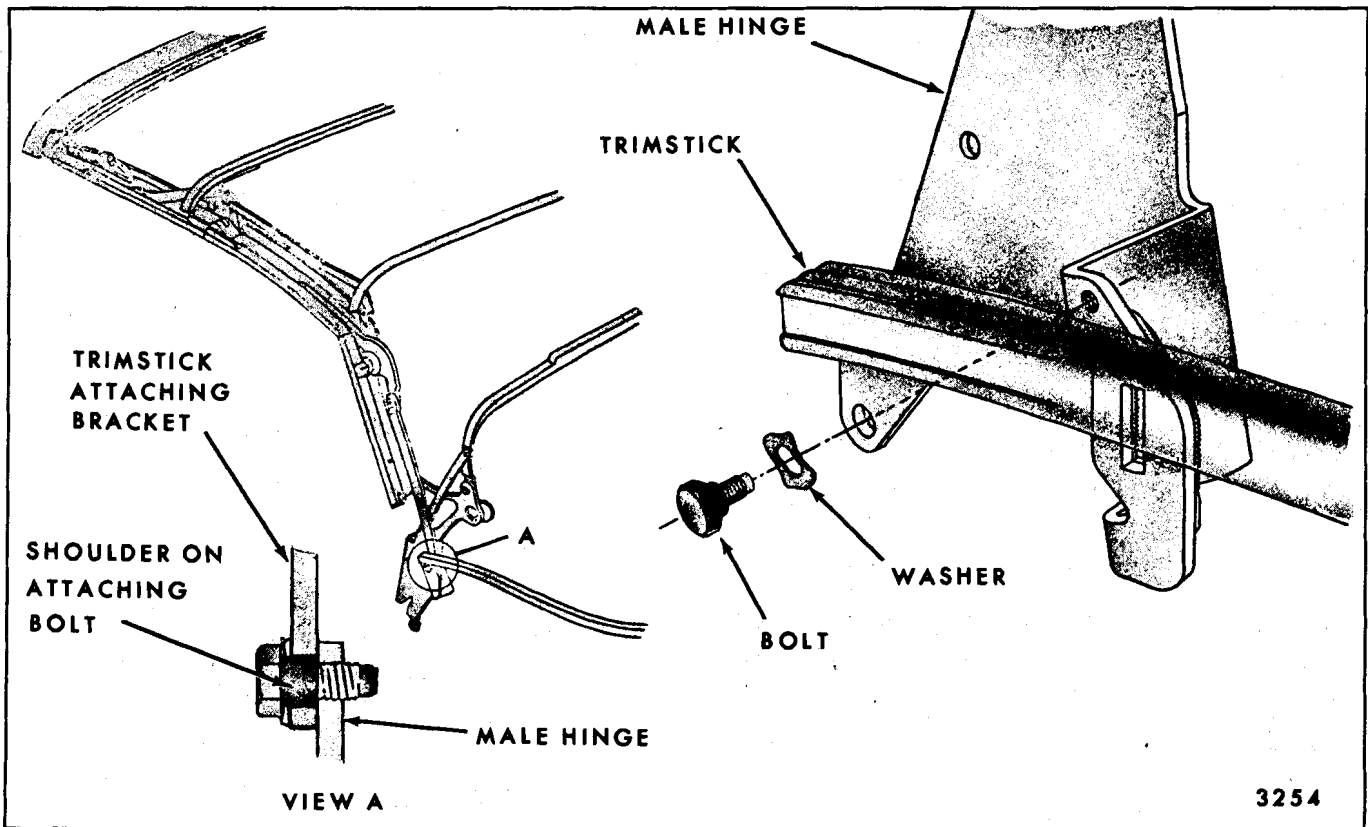

Fig. 12-6-Trimstick Attachment "A" Styles
11. Raise front roof rail several inches off windshield header and disconnect rear trimstick removing attaching bolts using a suitable box-socket type wrench to remove each bolt from "outside" surface of male hinge (Fig. 12-6 and 12-7).
7. Position rear trimstick into body in reverse of removal operations (See Step 12 of Removal of Folding Top and Back Curtain Trim Assembly, Fig. 12-6).
8. Secure rear trimstick to body assembled position and install attaching bolts (Fig. 12-6).
10. With front roof rail several inches off windshield header, disconnect rear trimstick as required by removing attaching bolts using a suitable box-socket type wrench to remove each bolt from "outside" surface of male hinge (Fig. 12-6 and 12-7).
4. Secure rear trimstick to body assembled position and tighten attaching bolts (Fig. 12-6).